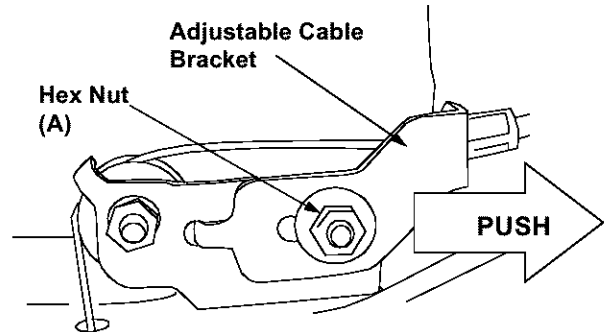

Figure 11
- Loosen hex nut (A) which secures the adjustable cable bracket. See Figure 11.
- Push back on the adjustable cable bracket and tighten hex nut (A). See Figure 11.